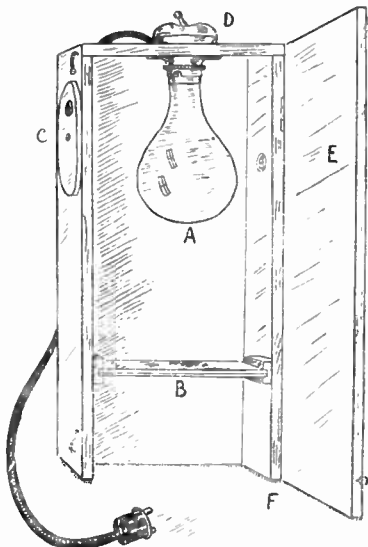

Fig. 2—Front elevation showing the constructional details
Before commencing the actual construction, the reader is advised to study Fig. 2 to observe the salient features. As can be seen, the set-up is quite simple. It consists of an opal or pearl bulb (A) of 60 watts with an opalising or diffuser screen (B) set at a predetermined position beneath. The combination of pearl bulb and opalising screen is necessary to ensure a perfectly even spread of light over the entire print. Should a plain bulb be used a patchy print would result, even if the opalising screen is in position, as the light would naturally be concentrated around the filament area.